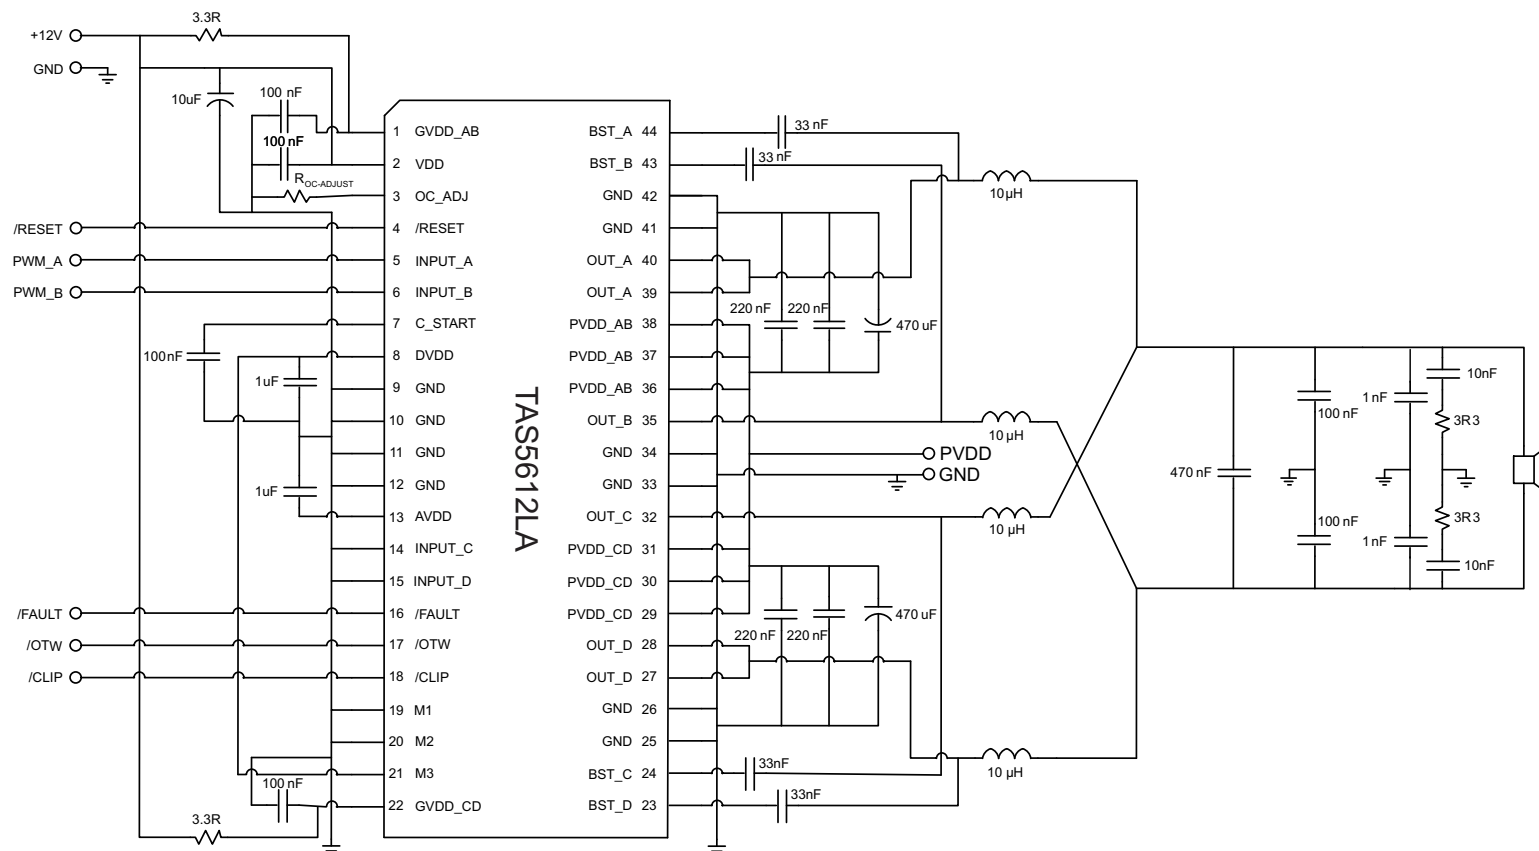

图 19. Typical Differential (2N) PBTL Application With AD Modulation Filter
See 图 19 for application schematic. In this application, one differential PWM input is used with AD modulation from the PWM modulator such as the TAS5558. AD modulation scheme is defined as PWM(+) is opposite polarity from PWM(-). The output PBTL configuration is often used to drive lower impedance load such as a subwoofer.
- Pins 27, 28, 32, 35, 39, 40 - Output pins from half-bridges A, B, C, and D. Connect appropriate bootstrap capacitors and differential LC filter as shown in 图 19.
- Pins 29, 30, 31, 36, 37, 38 - Power supply pins to half-bridges A, B, C, and D. A and B form a full-bridge and C and D form another full-bridge. A 470-uF bulk capacitor is recommended for each full-bridge power pins. Two 0.22-μF decoupling capacitors are placed on each full-bridge power pins. See 图 19 for details.